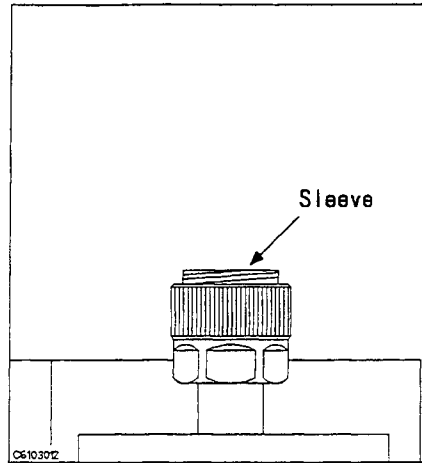

Figure 3-5.
5. Verify that the connector sleeve is extended fully as shown in Figure 3-5.